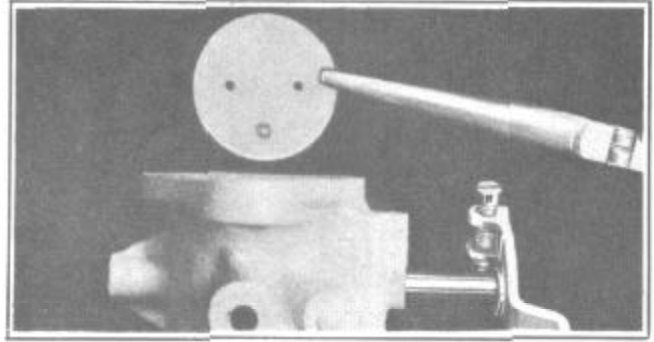

FIGURE 32
6. Install throttle shaft and lever assembly and throttle valve. Small "C" in circle should be toward idle port facing manifold side of flange, Figure 32. Center valve by tapping lightly